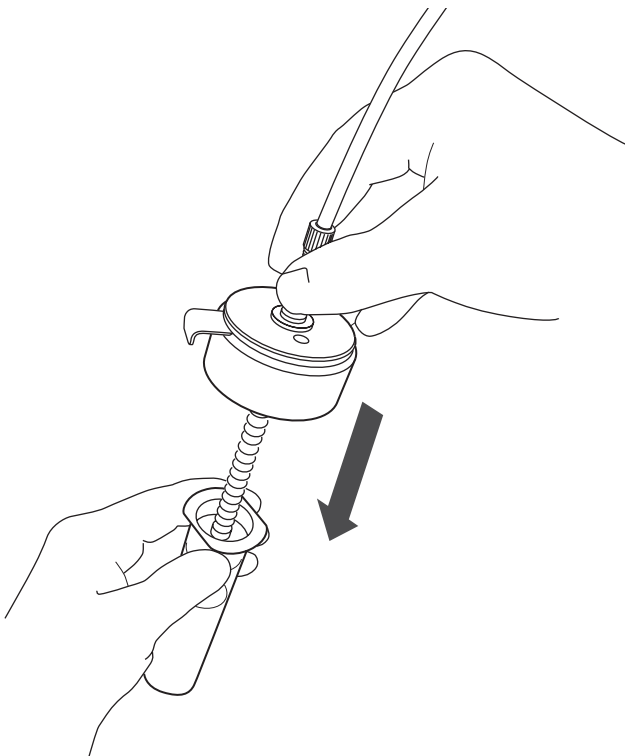

Figure 3: Insert the plunger to the bed
3. Slide the plunger into the cartridge until it reaches the top frit (Figure 3).